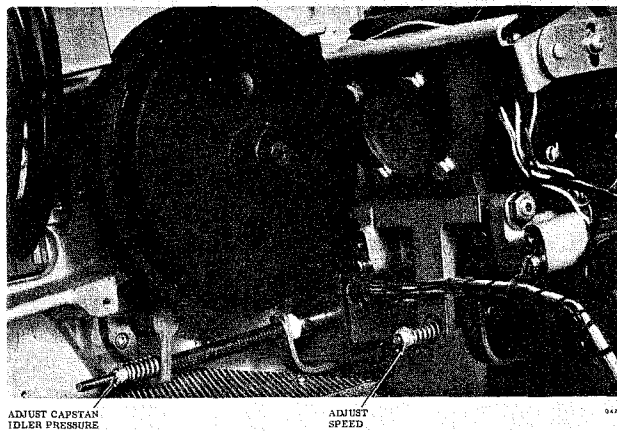

Fig. 4-4 Capstan Idler and Tape Speed Adjustment Points
Step 6: If the indication in Step 5 is incorrect, adjust the lock nut (see Fig. 4-4) as required to achieve a reading within tolerances. Running the nut in will increase pressure, out will decrease.
Step 1: Place the equipment in the reproduce mode, and back off the lock nut on the drive solenoid (see Fig. 4-4) until the drive motor pulley does not contact the capstan flywheel (capstan is not driven).